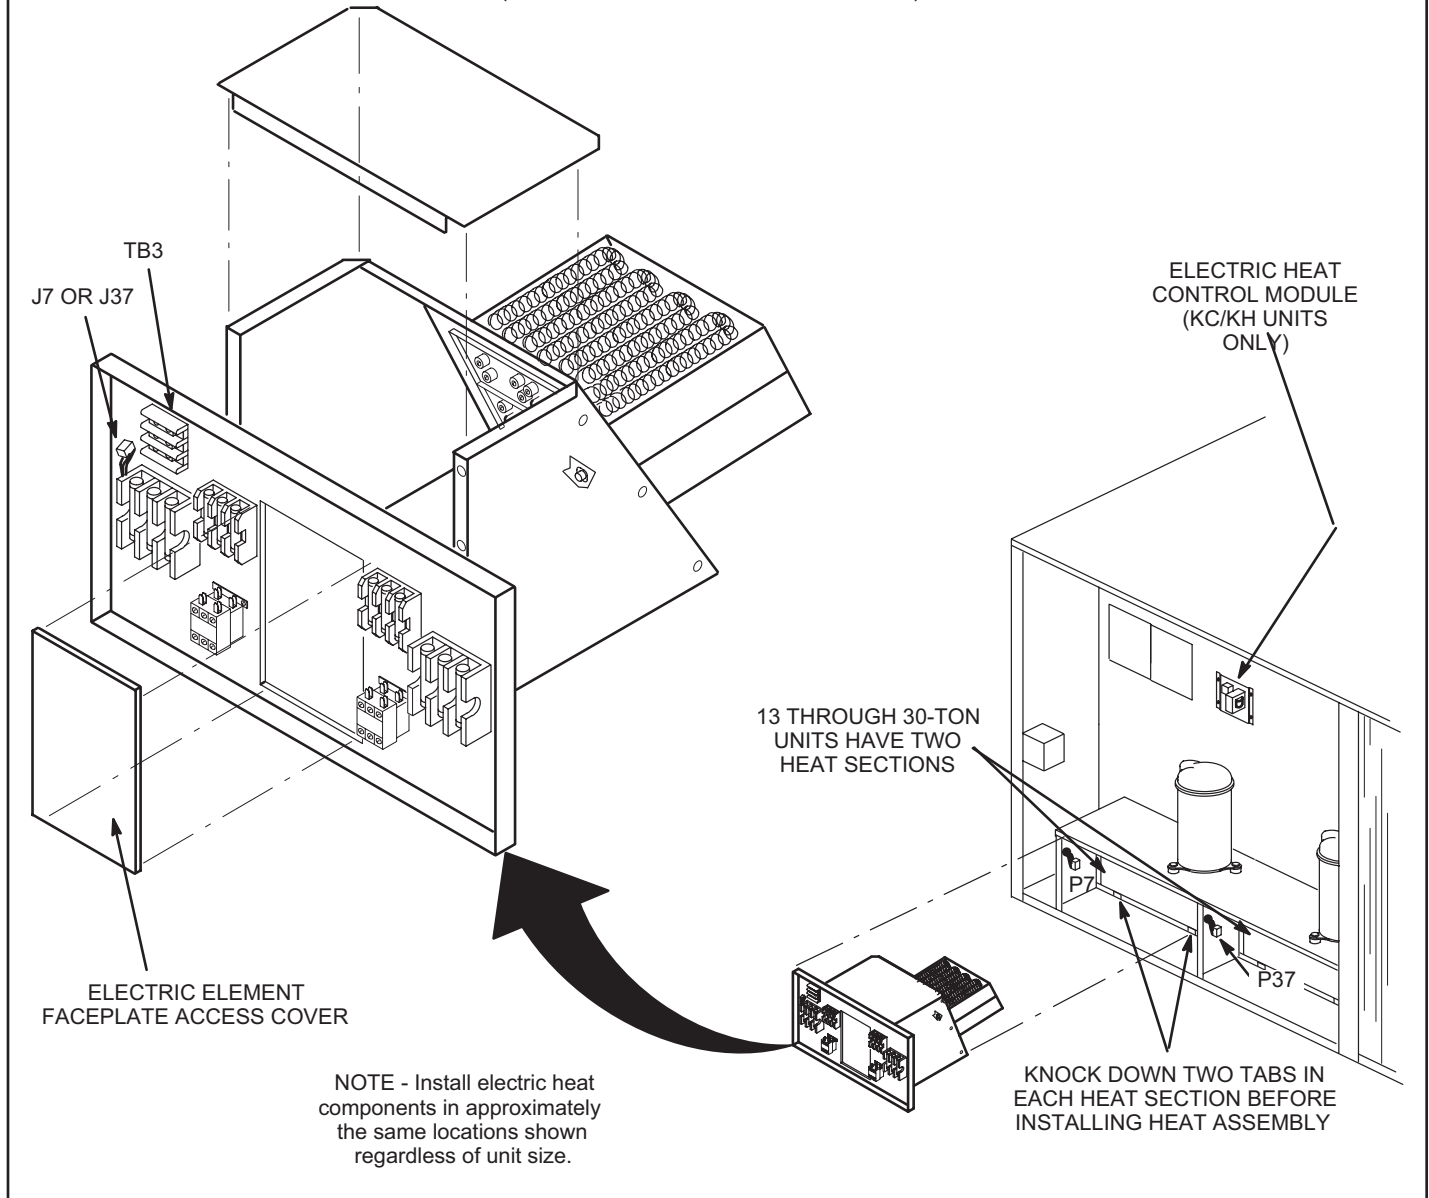

FIGURE 1
Knock down two tabs in unit heat sections. See FIGURE 1.
- 4 - Insert electric element heat assembly into rectangular vestibule opening and secure assembly using screws provided. See FIGURE 1.